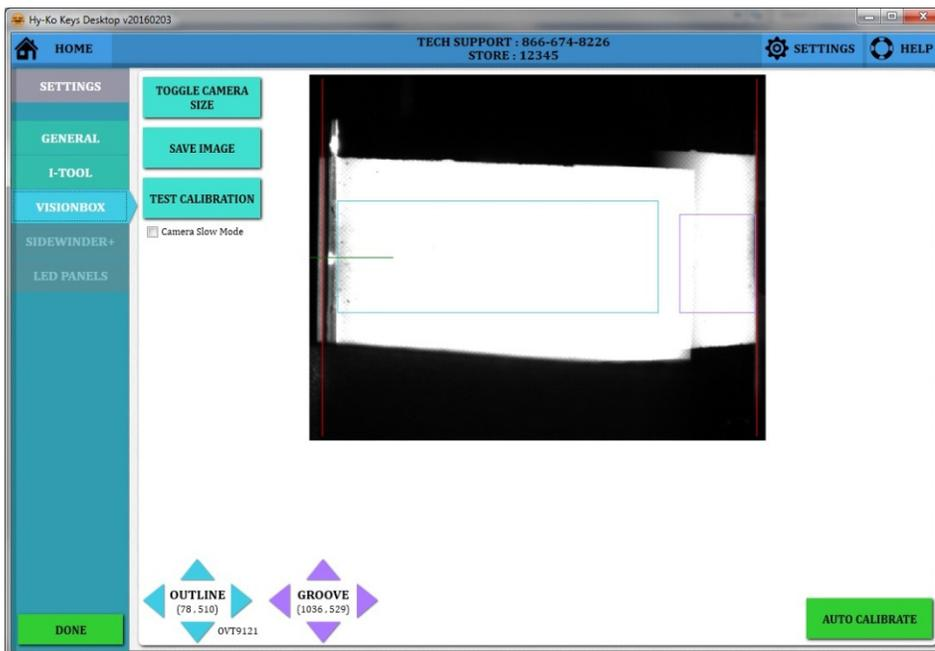

fig. 119
- The **'VISION BOX'** tab is where you can calibrate and test the Vision Box. This process is the same as what was shown in the **'Initial Setup'** section of this manual (see fig. 119).